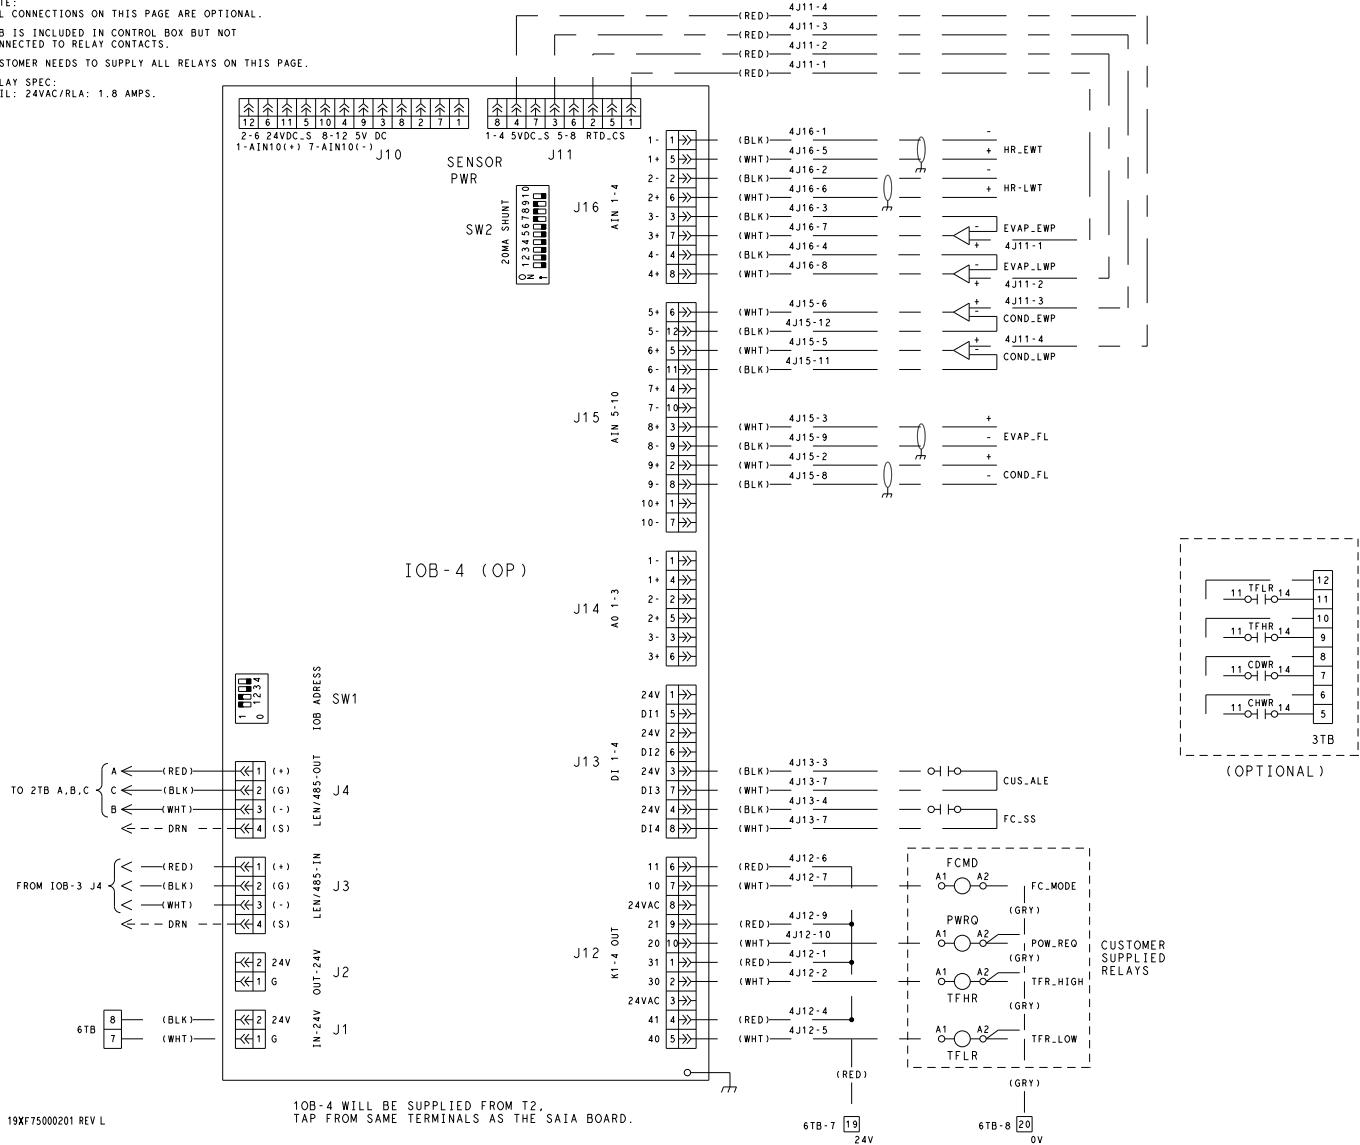

Fig. 15 – 19XR6/7 IOB4
- a. See Fig. 15 for IOB4 wiring diagram.
- b. For pressure readings, only Vout (output) terminal is indicated. See Fig. 15 for Vin (+) and ground (-).